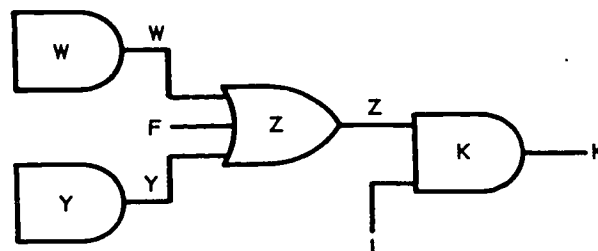

Figure 1-71. Example equation - step 5.
(5) Draw two AND-gates, one for W and one for Y (fig. 1-71).